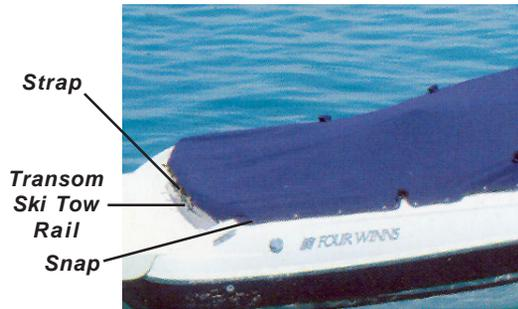

Figure O7: Cockpit Cover - Straps & Snaps
3. Secure the rear corners and aft edge of the cockpit canvas. This is done with the use of any combination of snaps, elastic cords and/or straps. If straps are used they usually are placed around the transom rail and snapped. See Figure O7.